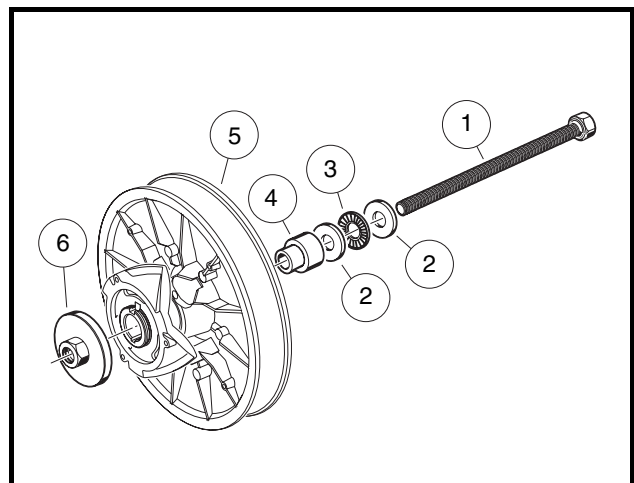

Figure 20-20 Cam Installation Tool
- 5.2.1. With the clutch loosely assembled, set the edge of the clutch body (5) on a clean, flat surface (**Figure 20-20, Page 20-15**).
- 5.2.3. Slide the bolt (1) through the clutch body (5) until the threaded bolt, washers, bearing, and hub guide are against the fixed face hub (**Figure 20-20, Page 20-15**).